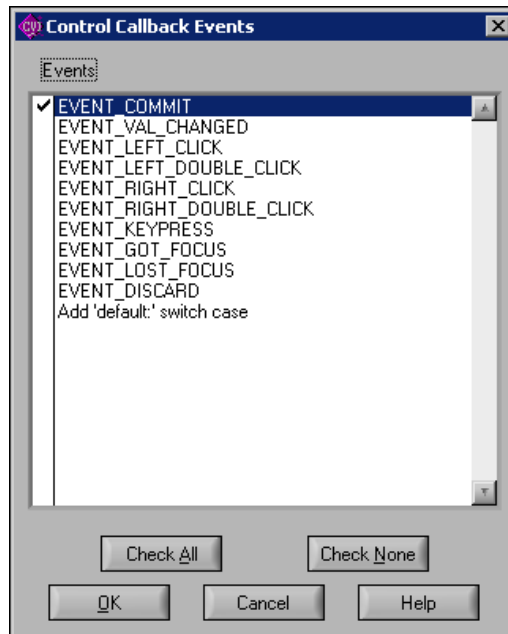

Figure 5-3. Control Callback Events Dialog Box
1. Before you use CodeBuilder, you must specify the events to which your program must respond. Select **Code»Preferences»Default Control Events**. The dialog box shown in Figure 5-3 appears, with a checkmark beside the `EVENT_COMMIT` callback event.